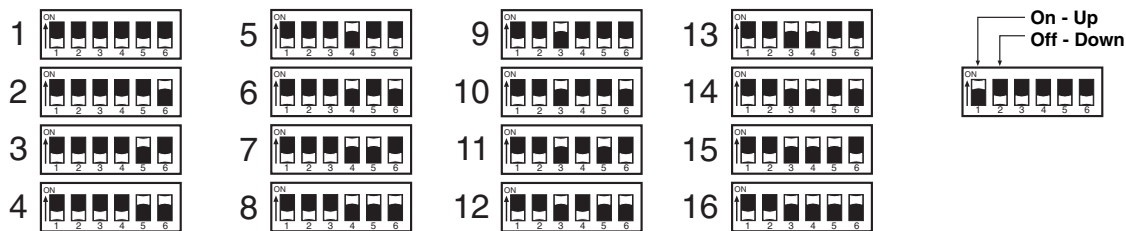

Figure 4 - HomeWorks Wired Processor with label
1. **Install processor in the enclosure:** The *HomeWorks* Wired Processor is attached to the enclosure using three mounting keyholes (see Figure 4).
3. **Connect to *HomeWorks* lighting controls.** For HWI-PM-H48-230 or HWI-PO-H48-230 models only, connect the communication wiring from the dimmers to the factory installed Dimmer Hub Board (see Figure 4). Connect the buses according to the bus assignments that were made using the *HomeWorks* Utility. Gray and violet connections are marked on the printed circuit board.
11. **Turn power ON.** Restore the supply breaker (MCB) to the ON position. Turn the processor power switch ON (see Figure 4).
14. **Connect manual override for processor with an integral Module Interface.** The Manual Override scene (as programmed in the *HomeWorks* Utility) is activated for all modules connected to the Module Interface by closing the Manual Override switch that is wired between the two terminals (see Figure 4). A toggle switch is provided with each *HomeWorks* Wired Processor for this purpose. For maximum reliability, group Module Interfaces on a single switch. This arrangement should have the switch and all of the Module Interfaces wired in parallel (see Figure 4).